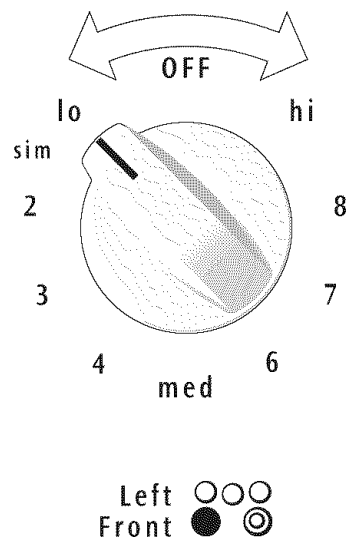

Fig. 4
2. Push in & turn the surface control knob in either direction to the desired setting (Refer to the **Suggested Radiant Surface Element Settings Table** & Fig. 4). Start most cooking operations on a higher setting and then turn to a lower setting to finish cooking. The surface control knobs do not have to be set exactly on a particular mark. Use the marks as a guide and adjust the control knob as needed. Each surface element provides a constant amount of heat at each setting. A glowing red surface heating area extending beyond the bottom edge of the cookware indicates the cookware is **too small** for the surface heating area.